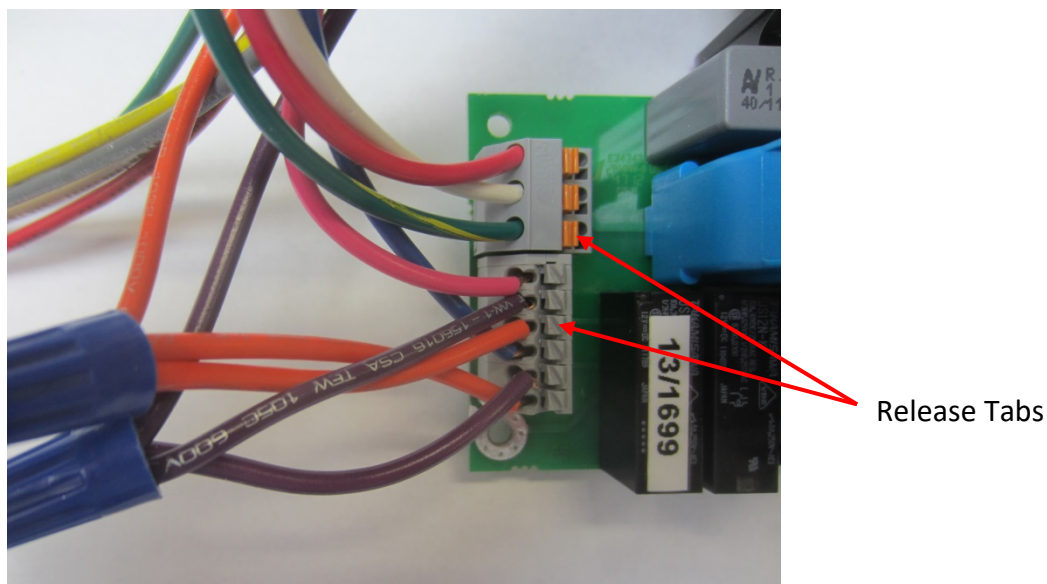
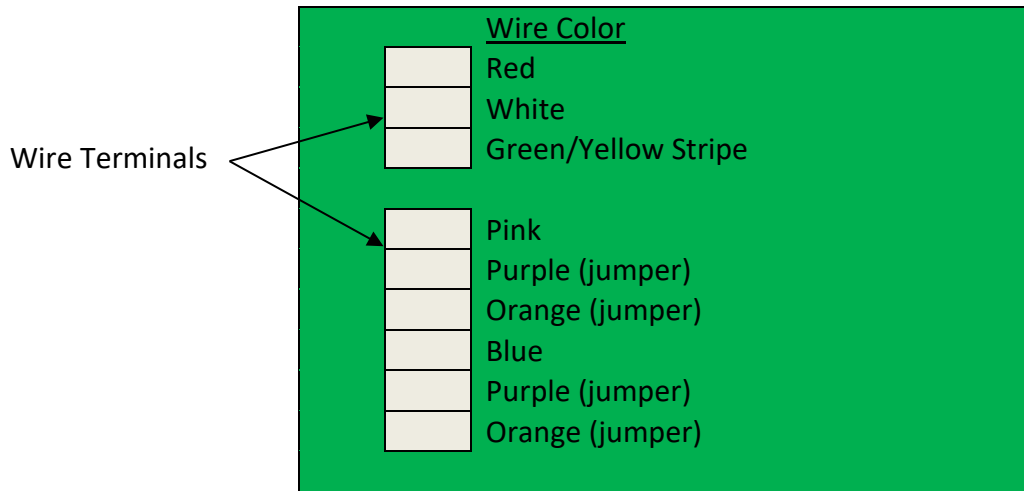

Figure 6-26-2
Figure 6-27-1
17. It is recommended that one wire at a time be removed and inserted into the terminal of the new Ballast. If you are viewing this manual in color, use the photo in Figure 6-26-2 to assist in placing the right colored wire into the correct terminal. If you are viewing this manual in black and white, it is highly recommended that a close up photo be taken. Also, Figure 6-27-1 shows the color of wire for each terminal.